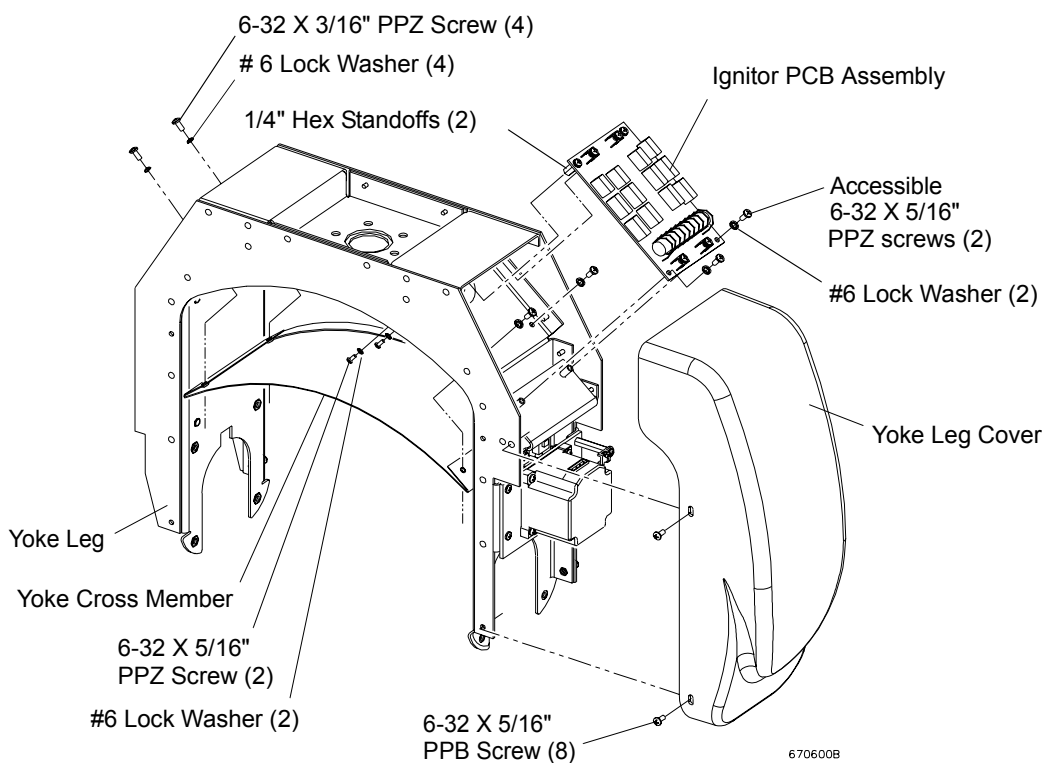

Figure 2-20: Ignitor PCB Assembly Replacement
- Step 2. At each yoke leg, remove yoke leg cover by removing four 6-32 X 5/16" PPB screws (**Figure 2-20**).